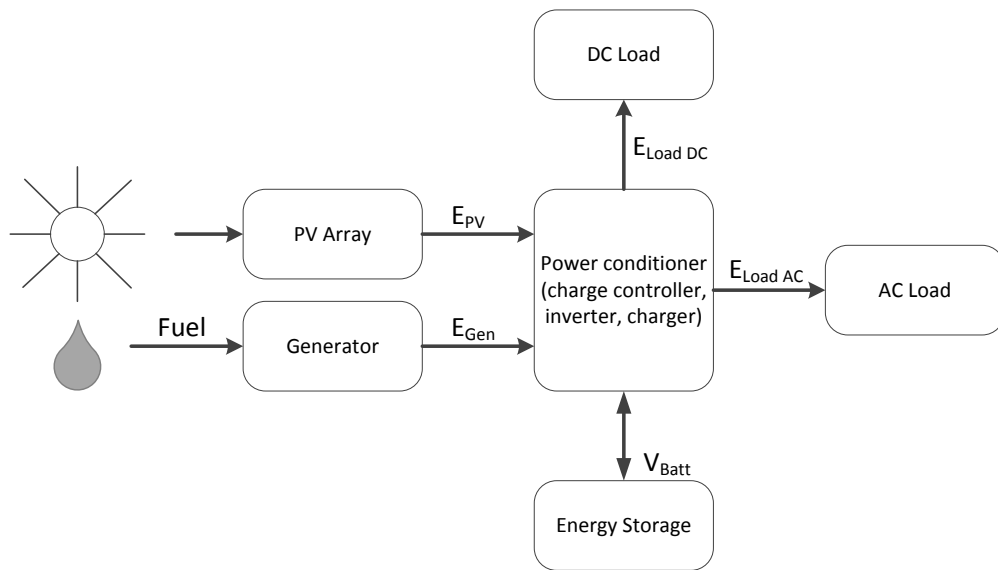
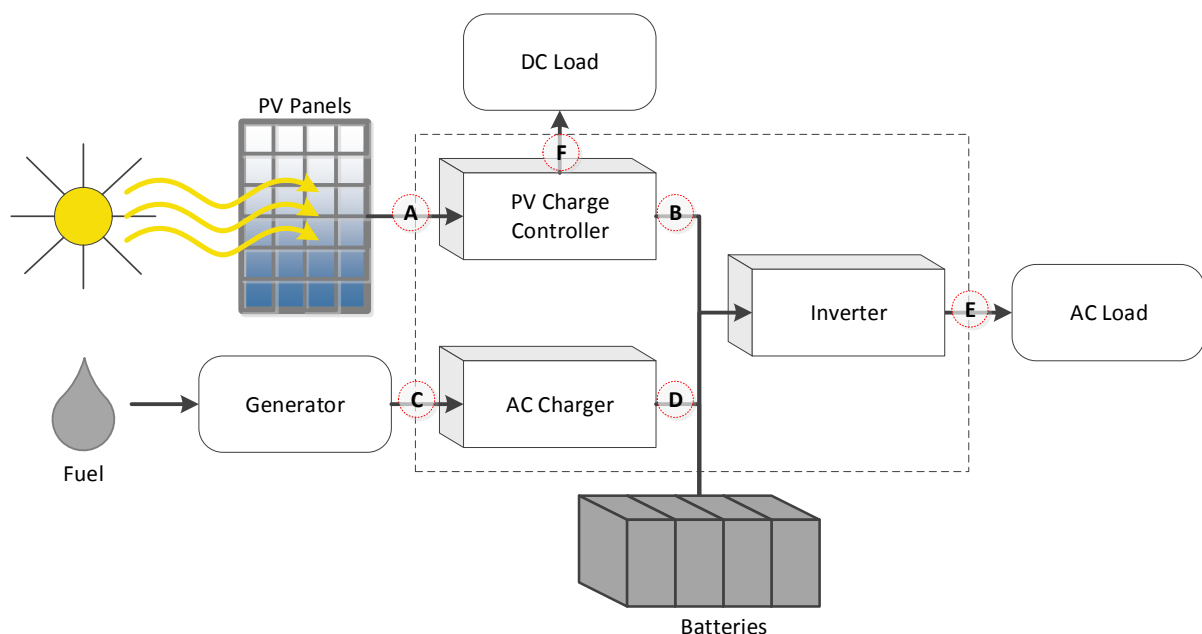

Figure 7: Schematic drawing of where measurements are taken.
Figure 8: System drawing with letters clarifying the possible positions of measurements described in this section.
For each one of the proposed measurements, a short introduction is given on what the measurement is used for. Then follows suggestions for which measurement equipment shall be used, and where in the system it should be placed. *Figure 7* shows a schematic drawing of where measurements should be taken. *Figure 8* further clarifies the discussed possible measurement positions by letters, which are referred to in the text.
**Measurement point:** The energy from PV is preferably measured between the PV array and the charge controller (point A in Figure 8). That allows for systems configurations with DC loads connected to the charge controller. It is also suitable for systems with charge controller, inverter and AC charger combined in one unit.
The guideline is best suited to systems with series controllers. If a charge controller of shunt type is used, the measurement must be taken after the charge controller (point B in Figure 8)\*. Otherwise the obtained values will not be relevant in the proposed evaluation. Taking the measurement after the charge controller would, however, imply that the measured value includes the losses in the charge controller. If the system has a shunt controller and DC load connected directly to it, the guideline will not give reliable results.
**Measurement point:** The energy from diesel generator(s) shall preferably be measured between the generator and the charger (point C in Figure 8). If a bi-directional inverter is used, this is a must. If an AC charger is used, the measurement could be taken between the AC charger and the further system infrastructure (point D in Figure 8)\*. Values measured after the AC charger would also contain losses in the charger though.
**Measurement equipment:** The energy to AC load is measured using an accumulative AC energy meter. Some inverters have inbuilt accumulative metering of energy going to load (AC). This value can be used.
**Measurement point:** The energy to AC load is preferably measured right after the inverter (point E in Figure 8). In this way, all electrical appliances (AC) as well as all distribution infrastructures such as wires and junction boxes will be regarded as load.
Measurement point: The energy to DC load is preferably measured right after the charge controller (point F in Figure 8). That way, all electrical appliances (DC) as well as all distribution infrastructures such as wires and junction boxes will be regarded as load.